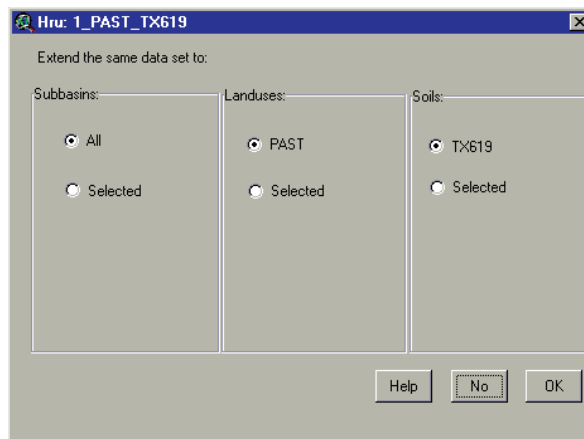

Figure12.24
4. If the user saves the modified values, once the values are saved for the HRU (by clicking **OK** in Step 3), a new dialog box is displayed allowing the user to copy the modifications to other HRU data sets (Figure 12.24).